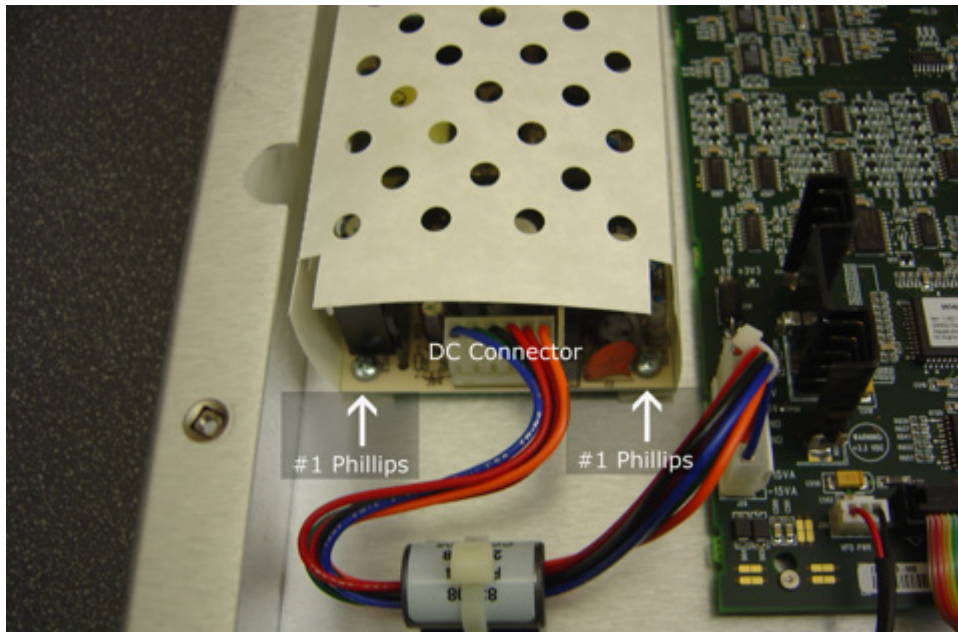
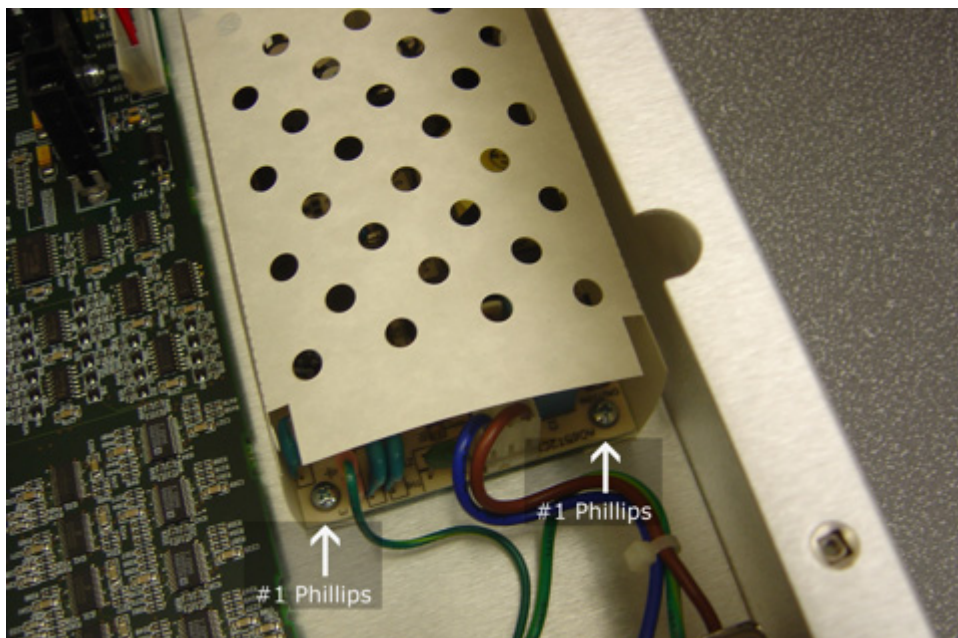

Figure 2 DC Side Screws
Figure 3 AC Side Screws
4. Remove the four Phillips head screws holding the power supply module in place. Figure 2 shows the two screws at the DC end of the module. Figure 3 shows the two screws at the AC end.